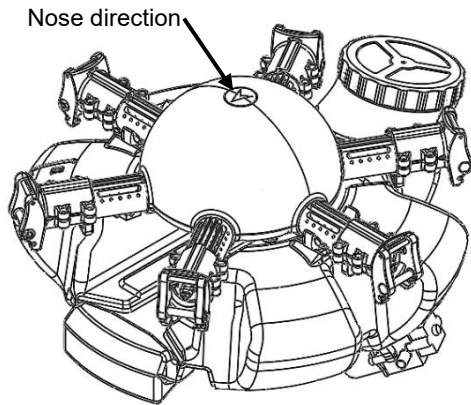

Figure 3
- 2) Mount the fuselage and the water tank kit according to the Figure3. The upper tank lid is at the drone tail.